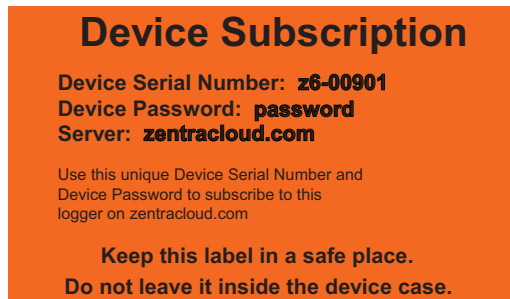

Figure 35 Sample device subscription card
1. Navigate to the server listed on the orange subscription card (zentracloud.com, zentracloud.cn, or zentracloud.eu) (Figure 35).
8. Fill in the ZL6 Device Serial Number and Device Password as shown on the device subscription card (Figure 35).